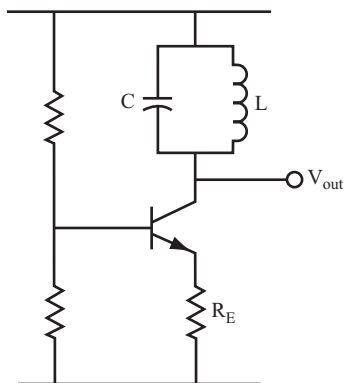

FIGURE 9.9
**12** Figure 9.9 shows the parallel LC circuit connected between the collector and the supply voltage, rather than between the collector and ground (as in Figure 9.8).